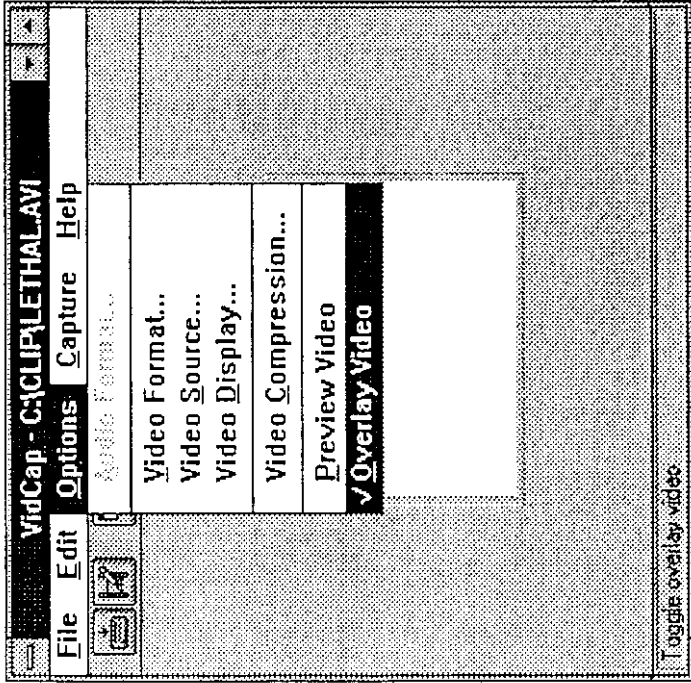

Figure 3-20.
1. In the VidCap program window, CLICK on "Video Format" under Options to set screen size (see Figure 3-20).